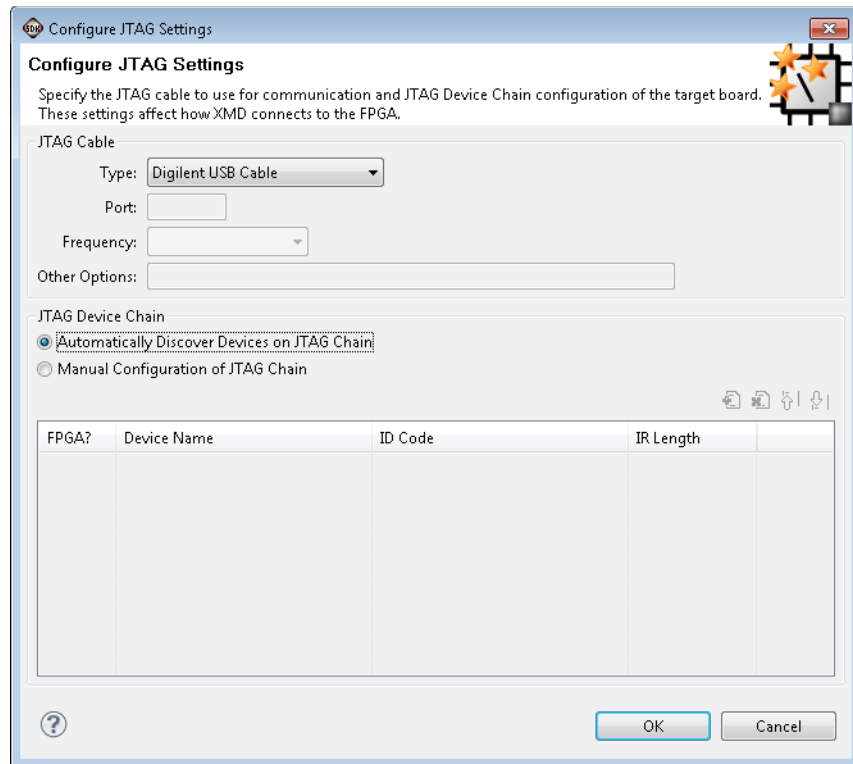

Figure 17: JTAG Configuration Settings
1. Open the JTAG configuration by selecting **Xilinx Tools > Configure JTAG Settings** (Figure 17).